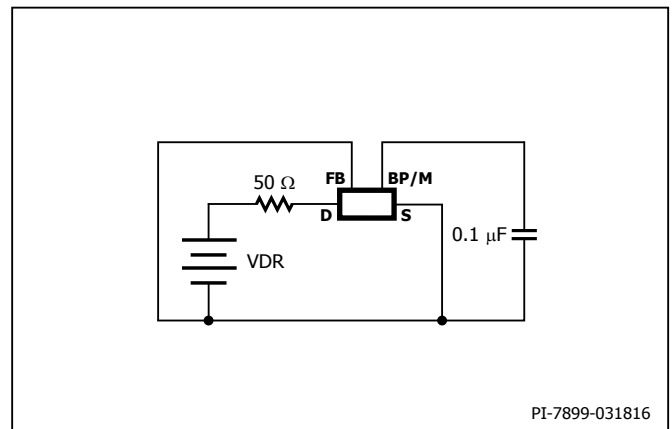

Figure 14. LinkSwitch-XT2 Minimum On-Time Test Circuit.
- I. Measured using circuit in Figure 14 with 50  $\Omega$  drain pull-up. The width of the drain pulse is measured as the time from  $V_{FALL} = 42$  V to  $V_{RISE} = 40$  V ( $V_{DR} = 50$  V).